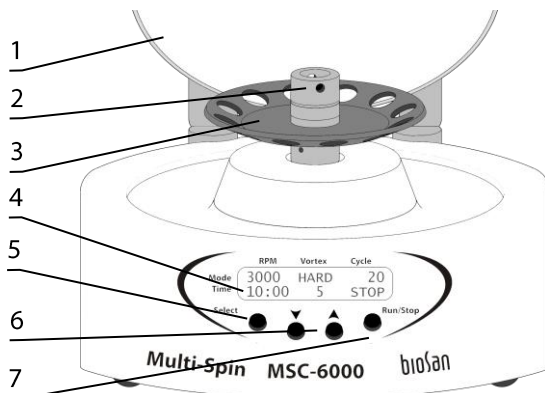

Figure 3. MSC-3000 and MSC-6000
4.4.2. **MSC-3000 & MSC-6000.** To change a rotor (fig. 3/3), open the lid.
Insert the pin for rotor removal into the opening in the fixation head (fig. 3/2). Hold the rotor with one hand and turn the fixation head (using the pin as a lever) counter clockwise to set rotor free. Change the rotor and fix it in place in reverse order. Close the lid and disconnect the external power supply from the mains.
- 5.3.1. Connect the external power supply to the grounded mains socket. Display (fig. 3/4) lights up and lid (fig. 3/1) unlocks (**MSC-6000**).
- 5.3.3. **Parameter setting.** Press the **Select** key (fig. 3/5) to choose a parameter to change. Each consecutive press of the **Select** key sequentially activates parameters in cycle. The active parameter will be blinking.
Use ▲ and ▼ keys (fig. 3/6) to set the necessary value. Pressing the key down longer than 2 s will make the values change quickly.
- 5.3.7. Press the **Run/Stop** key (fig. 3/7) to start the program. Display shows indication RUN (fig. 7/2) and, for **MSC-6000**, lid lock symbol (🔒, fig. 7/1).